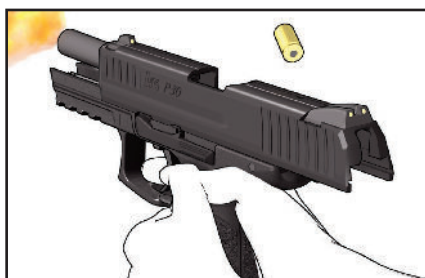

Figure 19 — Two-handed grip
1. Acquire the proper sight alignment and sight picture (see Figure 19).